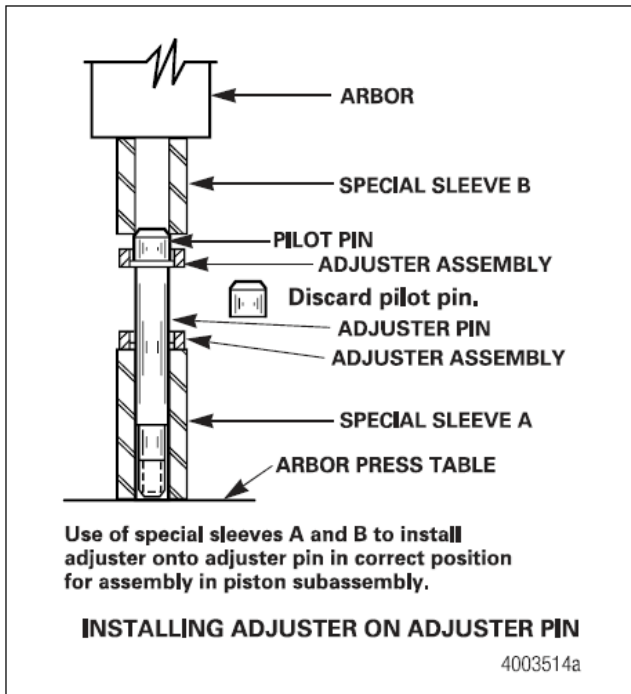

Figure 4.6
- If required, install the adjuster on the adjuster pin as follows Figure 4.6.
- B. Press the adjuster off the expendable pilot pin, onto the adjuster pin. Figure 4.6.